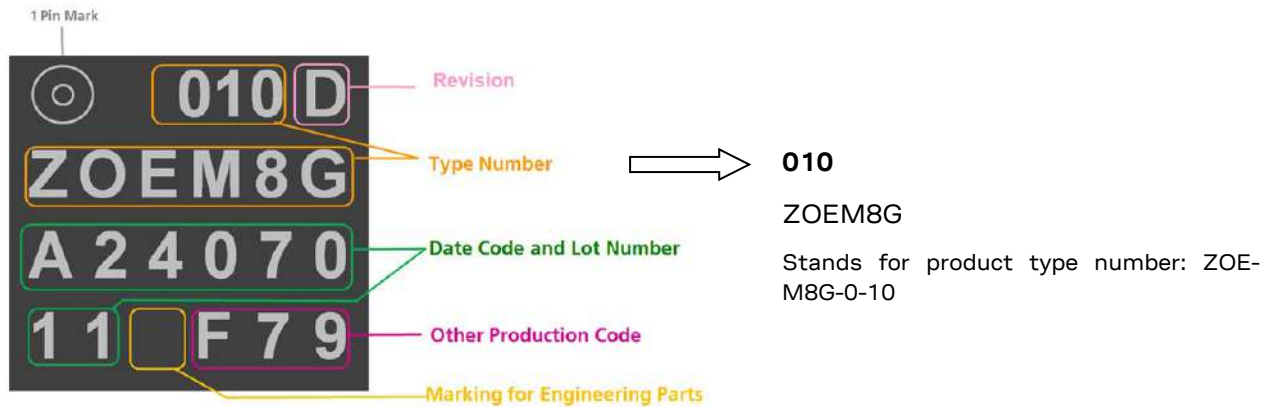

Figure 7: Description of ZOE-M8 product label (top view)
The labeling of u-blox M8 GNSS products includes important product information. The location of the ZOE-M8 product type number is shown in Figure 7.
-  The pin 1 marking shown in Figure 7 has changed. The change is effective from production date code and lot number **C0501XXX** (ZOE-M8G) and **B5101XXX** (ZOE-M8Q) onward.